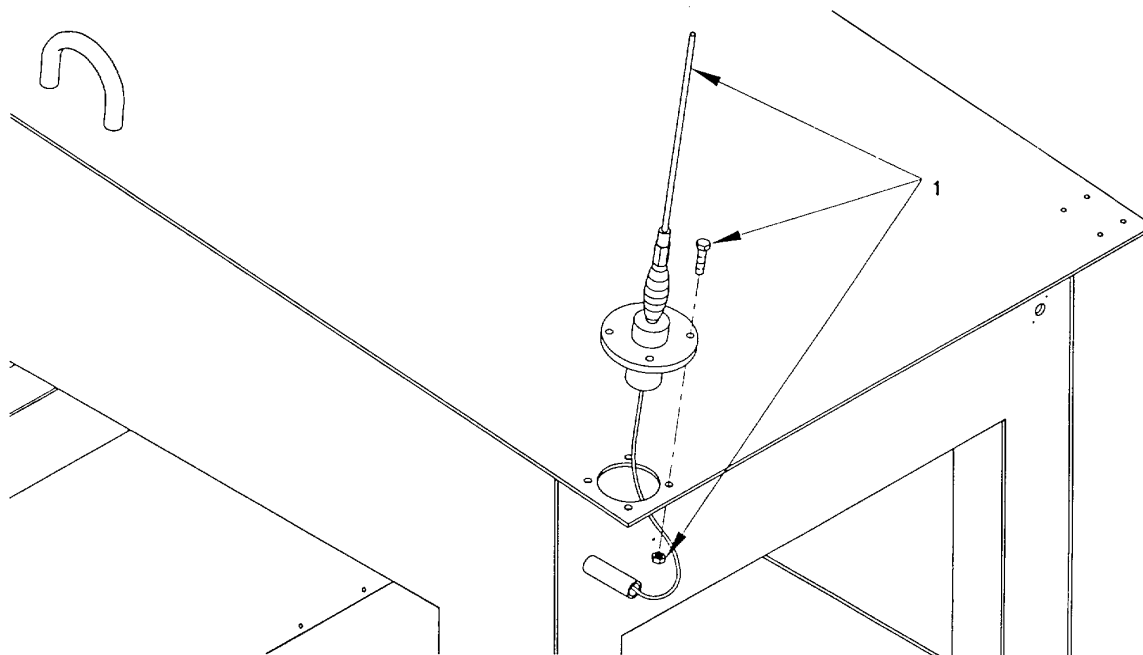

Figure 2-110. Antenna (SINGARS), Remove/Install
a. *Remove.* (figure 2-110)
b. *Install.* (figure 2-110)